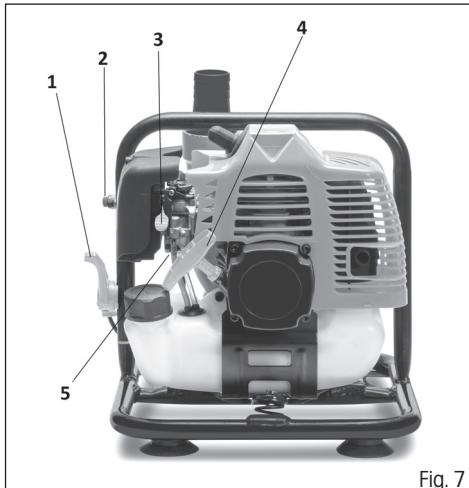

Fig. 7
1. Set the throttle trigger (fig.7, point 1) approximately to halfway of its path.
2. Repeatedly push down the fuel primer bulb (3 to 5 presses), until the fuel gets to the carburettor. (Fig. 7, point 5)
3. Move the choke lever upwards to the "OFF" position (=air supply turned off, i.e. choke turned on). (Fig. 7, point 3)
4. Hold the pump on the ground with your left hand and pull the starting cord with your right hand (fig.7, point 4), until the engine is given a spin (attempting to start up).
- To control the engine speed along with the pump output, operate the throttle trigger (fig.7, point 1).
- To stop the engine, press the STOP button (fig.7, point 2).